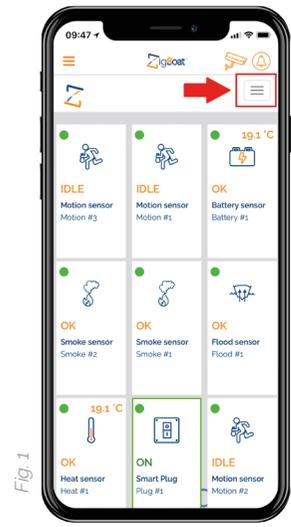

Fig. 1
1. Open the ZigBoat™ App, select the Gateway in the ZB Gateways menu, wait a few seconds, then select the menu button on the top right (fig. 1). Select "Device list" (fig. 2). Add the sensor by entering the serial number which is on the sensor's label (fig. 3). To locate the serial number of the sensor, remove the front cover by pressing the tab on top.